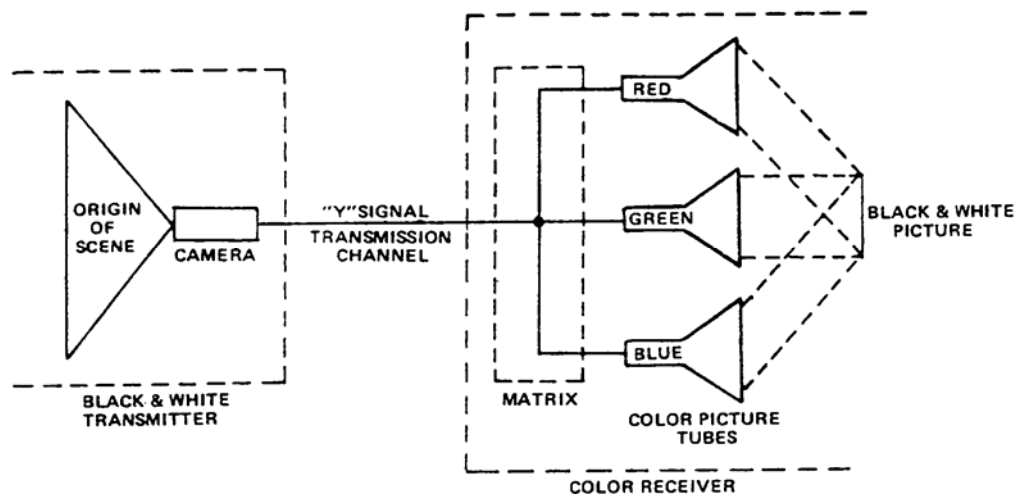

Figure S-16. Reverse Compatibility
- After a white raster is obtained, the signal is applied to all three guns and the black and white signal being transmitted produces a monochrome picture. In the process of producing a white screen, the electronics of the CRT automatically separate the brightness signal into the ratio of 30 percent red, 59 percent green, and 11 percent blue as the signal is applied to the electron guns. Figure S-16 shows reverse compatibility.